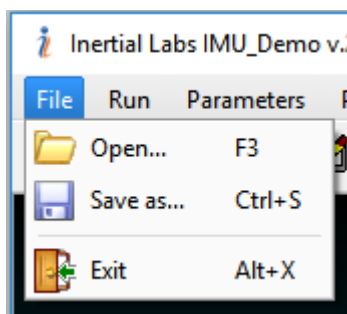

Fig.3.2
**File** Menu contains standard Windows file management commands (Fig.3.2).